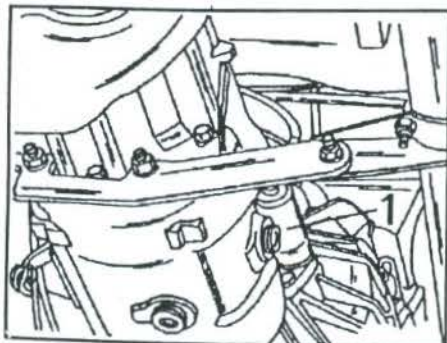

Fig. 1.2 – The clutch slave cylinder (1) is fitted to the side of the transmission.
- Unscrew the clutch slave cylinder from the side of the transmission without disconnecting the hydraulic hose. Tie the cylinder to the vehicle floor to prevent it from hanging down on its hose. Fig. 1.2 shows where the cylinder is attached.